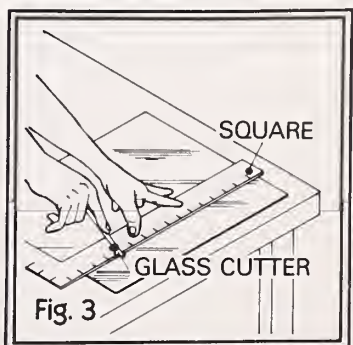

Fig. 3
1.(b) If the glass is cut on the job, first lay the sheet of glass flat on a table. Mark the measurements on the glass with the glass cutter. Place a thin coat of turpentine on the glass cut line. Take care not to cut your hands on glass edges. Using the square as a guide, draw the cutter carefully and firmly along the cut line *only once* (fig. 3). Additional strokes of the cutter can break the glass. Move cut line to edge of table. Tap cut line lightly for a clean break.